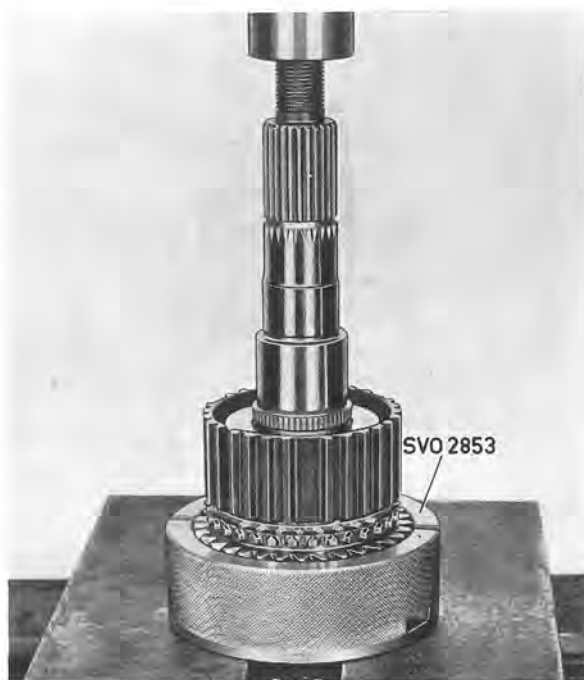

Fig. 4-25. Disassembling mainshaft, I
3. Fit tool 2853 on to the mainshaft. Place the shaft in a press and support it with the tool as shown in Fig. 4-25. Press off 2nd speed gear wheel and 1st and 2nd speed synchronizing hub.